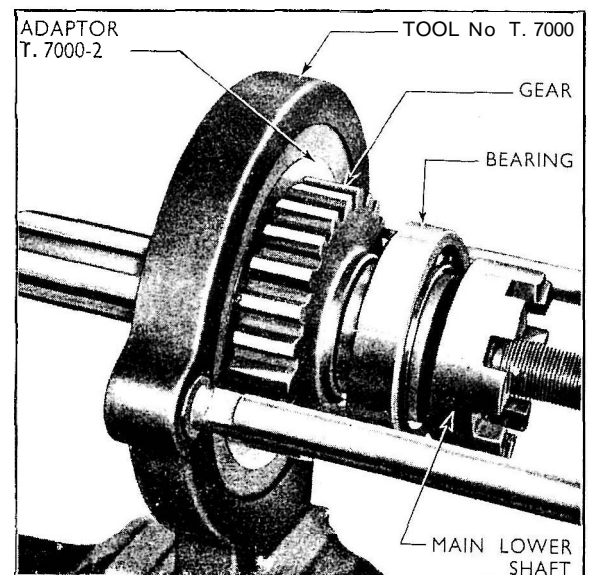

Fig. 27
8. Locate the larger bearing on the lower shaft, pass the gear (shoulder only) along the shaft to engage the larger splines (see Fig. 27). Place this assembly into Main Tool No. T.7000 and press the shaft through the gear. The bearing must be located on the gear shoulder as the shaft is moving through the gear. Remove the assembly from the tool and fit the circlip behind the gear.